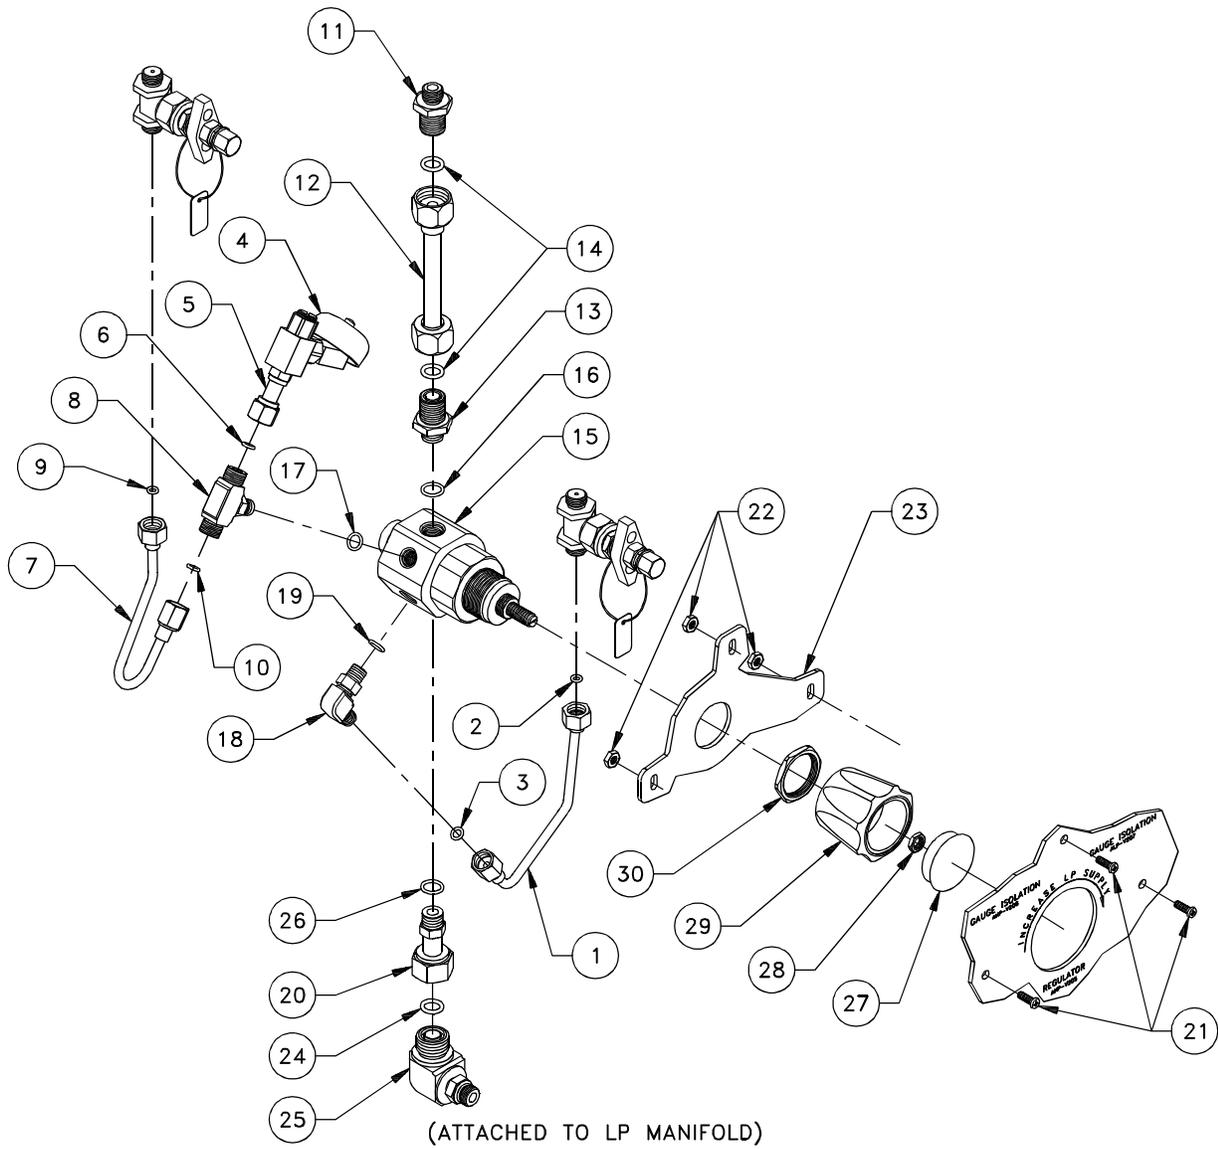

Figure 6-8. Regulator (AHP-V205)
6.5.2.9 Regulator (AHP-V205) Removal and Replacement (Figure 6-8).
- (2) Install O-ring (16) on connector (13). Screw connector into regulator inlet port; hand-tighten.
- (3) Ensure tee (8) retaining nut is fully backed off of O-ring seating surface. Install O-ring (17) on tee (8). Screw tee into regulator port next to inlet adapter and hand-tighten. Orient tee parallel to back face of regulator and hand-tighten tee retaining nut.
- (4) Ensure elbow (18) retaining nut is fully backed off of O-ring seating surface. Install O-ring (19) on elbow (18). Screw elbow (18) into regulator port adjacent to tee; hand-tighten.
- (5) Install O-ring (26) on connector (20). Screw connector (20) into regulator; hand-tighten.
- (6) Install O-ring (24) in elbow (25) on back of LP manifold.
- (7) Place regulator (15) and bracket (23) on CPA so that inlet port is pointed toward three-way ball valve.
- (8) Screw connector (20) large nut onto elbow (25); hand-tighten.
- (9) Install three screws (21) and locknuts (22) using #2 cross-tip screwdriver and 3/8" wrench. Do not tighten.
- (10) Using 15/16" wrench, tighten connector (13) onto regulator.
- (11) Using 11/16" wrench, tighten connector (20) small nut onto regulator.
- (12) Install O-ring (6) on union (5). Hand-tighten union (5) nut onto tee (8), turning tee slightly, as required. Situate LP alarm (4) as shown in Figure 6-8, positioning alarm body beneath tube (12).
- (13) Install O-rings (9, 10) on tube (7). Install tube between HP gauge isolation valve and tee (8). Position tee slightly, as required; hand-tighten tube nuts.
- (14) Install both O-rings (14) on connector (11) and connector (13). Carefully install tube (12); hand-tighten tube nuts.
- (15) Holding connector (11) with 15/16" wrench, tighten tube (12) upper nut with 1" wrench. Holding connector (13) with 15/16" wrench, tighten tube (12) lower nut with 1" wrench.
- (16) Using 1" wrench, tighten connector (20) large nut.
- (17) Using 11/16" wrench, tighten tube (7) nuts (between HP isolation valve and tee (8)).
- (18) Grip LP alarm (4) and tube (12), and tighten union (5) nut with 11/16" wrench. Ensure alarm does not touch tube (12) or LP gauge isolation valve (ALP-V207).
- (19) Using 11/16" wrench, ensure tube (7) nut is tight against tee (8).
- (20) Using slim 9/16" wrench, tighten tee (8) retaining nut.
- (21) Install O-rings (2, 3) on tube (1). Install tube (1) assembly between LP gauge isolation valve and elbow (18), positioning elbow to accommodate tube. Hand-tighten tube nuts. Using 11/16" wrench, tighten tube nuts. Using slim 9/16" wrench, tighten elbow (18) retaining nut.
- (22) Using #2 cross-tip screwdriver and 3/8" wrench, tighten regulator bracket screws (21) and nuts (22).